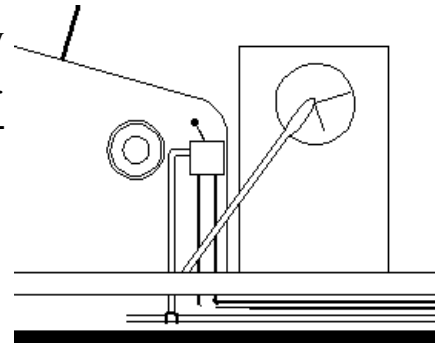

Fig. 1
1. Run a 1-½” to 2” air supply line to a convenient place to install a filter-lubricator assembly, as shown in Fig 1. The lines should be installed to approximately 1 to 1-½ feet below the mud line goose neck. Provide a tee in the air supply line for a connection to the hand control valve.